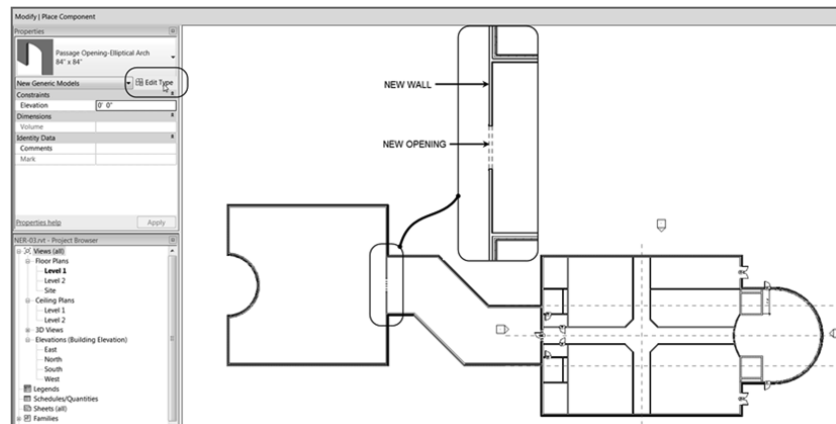

FIGURE 2.75: The new opening
5. Click the Edit Type button in the Properties dialog, as shown in Figure 2.75.
10. Zoom into the area shown in Figure 2.75, and place an Interior – 6 1/8" Partition (2-hr) (Interior – 135 mm Partition (2-hr)) wall as shown. This is the wall into which you'll place the opening.
11. On the Architecture tab, click Component, and place the opening into the wall as shown in Figure 2.75.